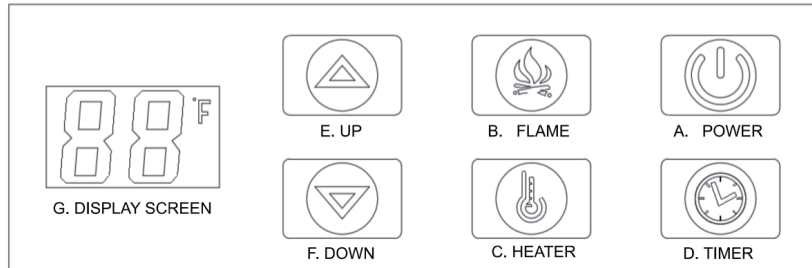

Figure 3
#### POWER (Figure 3.A):
#### Flame Effect (Figure 3.B):
- Press the UP (Figure 3.E) or DOWN (Figure 3.F) to adjust the flame brightness, not including Polar flame.
#### HEATER (Figure 3.C)
- Press the UP (Figure 3.E) or DOWN (Figure 3.F) to adjust the heater temperature.
### Timer ( Figure 3.D)
- Press UP (Figure 3.E) or DOWN (Figure 3.F) to choose the timing, the options are 30M/1H/ 2H/3H/4H/ 5H/6H/7H/8H.
### UP (Figure 3.E) / DOWN (Figure 3.F)
### Display Screen (Figure 3.G)